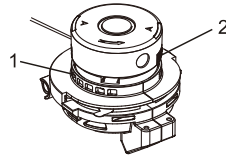
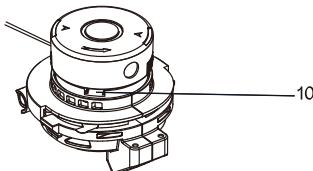

Fig. 12
Fig. 16
1. Press the spool locking buttons (1) & (2) on each side of the spool (Fig. 12).
4. Thread the loose end of the trimmer line (6) through the hole (7) in the spool housing (2).
5. While holding, pull slightly to tighten the line, and then slide it into the spindle (8) until it bottoms out.
6. Once the replacement spool is fully inserted into the spool housing, replace the spool cap (3) by inserting the locking buttons (1) into the spool housing.
7. Press the spool cap fully into the spool housing until the locking buttons "click" into the matching holes (9) in the spool housing.
8. When the new trimmer line spool is installed, approximately 3"/7.6 cm of trimmer line should be exposed beyond the spool housing. If it is too long, cut it to length with scissors. If it is too short, press the line release button (10) on the trimmer line housing and gently pull on the exposed trimmer line (Fig. 16).
Press the line release button (10) on the trimmer line housing and gently pull on the exposed trimmer line until 3"/7.6 cm of line is exposed beyond the spool housing (Fig. 16).
Remove the spool from the spool housing, unwind approximately 3" /7.6 cm of line and reinstall the spool (Fig. 12 through Fig. 16).
Remove the spool from the spool housing, unwind all the trimmer line from the spool and rewind the trimmer line onto the spool (Fig. 12 through Fig. 16).